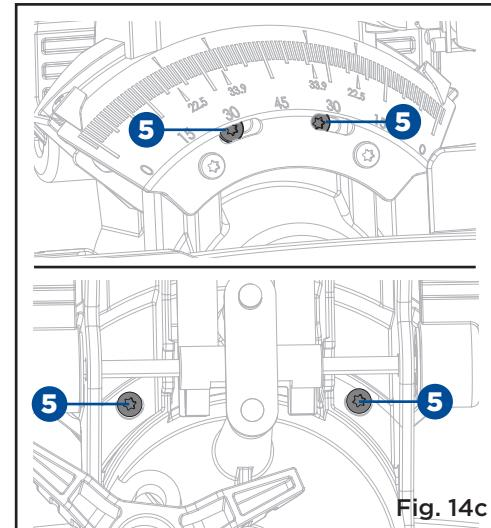

Fig. 14c
- If the blade is not 0° to the working table, loosen four screws (5) with flower wrench T25 (not supplied) (either two screws on the front and rear of the saw arm) (Fig. 14c). Adjust the saw arm 0° to the table. After alignment is achieved, tighten the four adjustment screws (5).